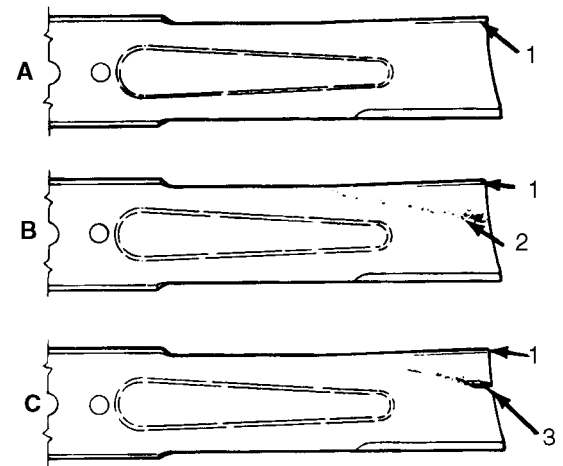

Figure 19
## INSPECTING AND SHARPENING THE BLADE (Fig. 19–20)
4. Examine the cutting ends of the blade carefully, especially where the flat and curved parts of the blade meet (Fig. 19-A). Since sand and abrasive material can wear
away the metal that connects the flat and curved parts of the blade, check the blade before using the machine. If wear is noticed (Fig. 19-B), replace the blade: refer to *Removing The Cutter Blade*.